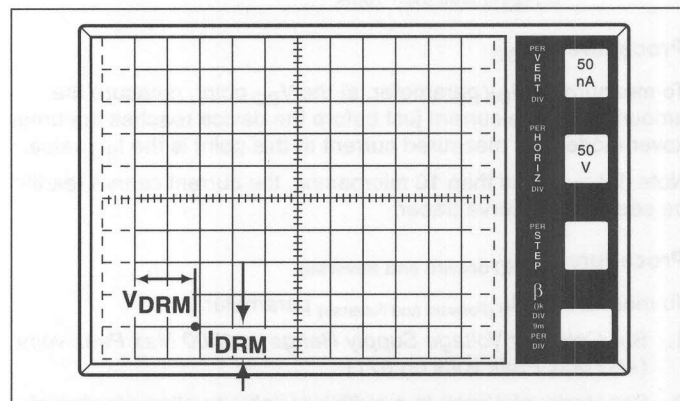

Figure 19.20 I_{DRM} is equal to 50nA at V_{DRM} equal to 90 volts
- Increase *Variable Collector Supply Voltage* to the rated V_{DRM} of the device and observe the dot on the CRT. Read across horizontally from the dot to the vertical current scale. This measured value will be the leakage current. (See Figure 19.20.)